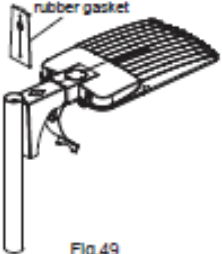

Fig.49
**Attention:** When install to round pole, please take off rubber gasket as below fig.49